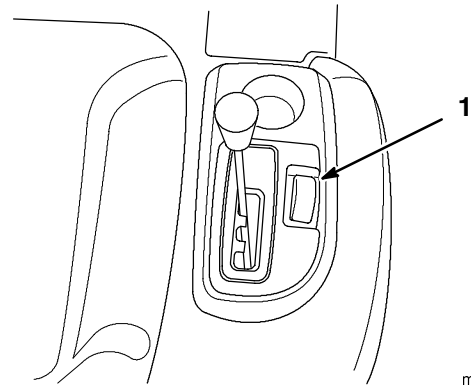

Figure 24
The cruise control is a switch (Fig. 24) on the right fender that maintains a set traction control position without foot pressure. The cruise control only operates when moving forward.
1. Begin driving the tractor; refer to Driving Forward or Backward, page 19. While holding your foot steady on the traction control pedal, push the cruise control switch (Fig. 24) to the “SET” position. This locks the traction control in position and your foot can then be removed from the traction control. A constant pedal position will be maintained.